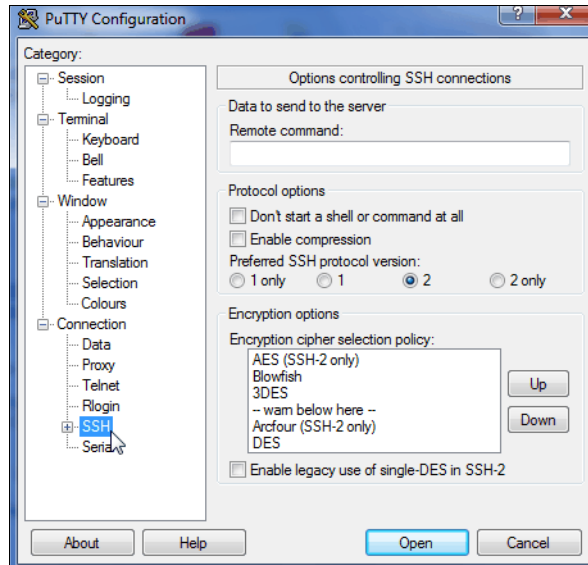

Figure A-11 SSH protocol version 2
- From the Category pane on the left side of the PuTTY Configuration window, click **Connection** → **SSH** to open the PuTTY SSH Configuration window (Figure A-11).